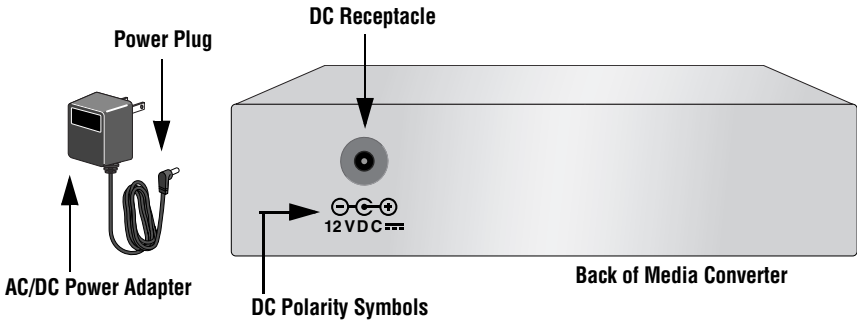

Figure 7 12VDC Connector on Rear Panel
5. Plug the AC/DC power adapter into an appropriate AC power outlet and insert the power plug into the DC receptacle located on the back of the unit. Refer to Figure 7 on page page 10.